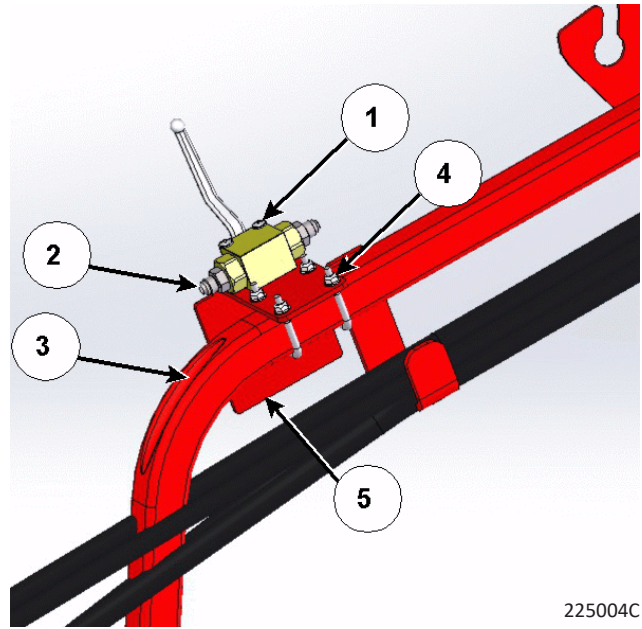

Figure 3: Attach the valve mount to the hose holder
- a. Place a #10 washer over a #10-24X2 screw (1) and secure in place, ensuring the handle is on the same side as the decal plate (5), see *Figure 3*.
- b. Connect a hydraulic fitting adapter (2) to either side of the hydraulic ball valve, see *Figure 3*.
6. Loosely attach the hydraulic ball valve mount to the hose holder (3), see *Figure 3*.
- b. Fasten the hydraulic ball valve mount onto the U-bolts using ¼ flanged lock nuts (4), see *Figure 3*.